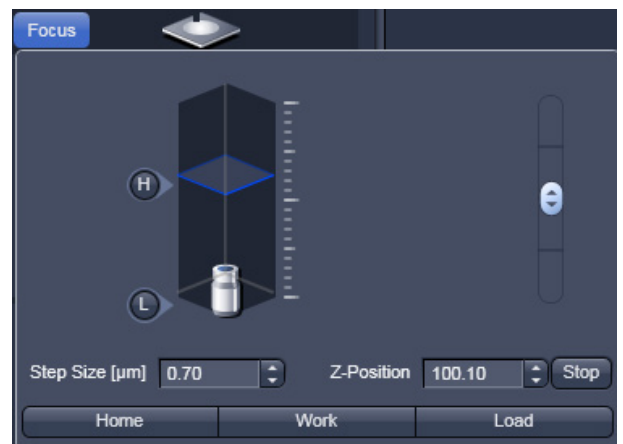

Fig. 355 Locate - Microscope Control tool, Focus
**Focus** button: If the focus button is pressed, the **Focus** control panel will appear (Fig. 355). The **Z-Position** display box shows the current z-position. The number can be edited by typing or using the arrowheads. The nosepiece or stage will automatically update the new position. By pressing the **Stop** button, you can stop the current movement. The **Step Size (µm)** display box show the currently use step size for stage movement. The value can be edited by typing or using the arrowheads. The **Home** button sets the z-position to the predefined 0 value. Pressing **Load** will lower the nose piece (z-position) for objective change. **Work** brings the z-position back to the actual used position if the focus was zeroed or in **Load** position.